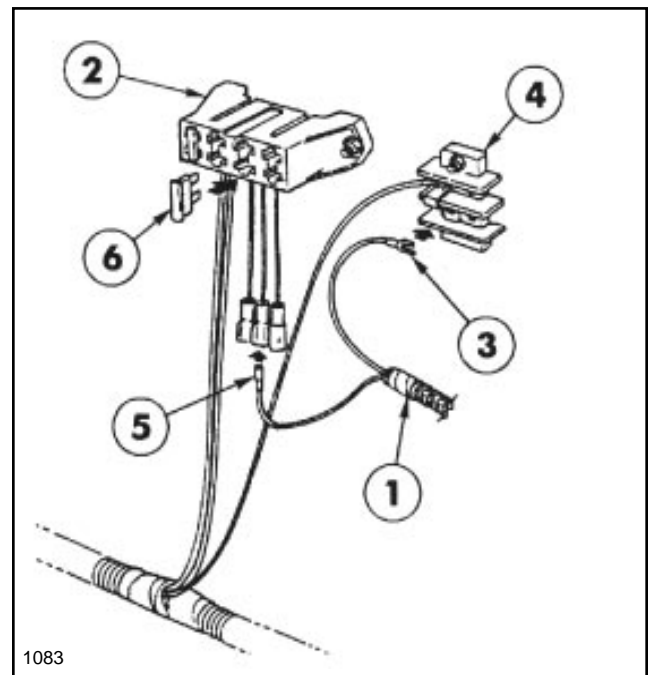

FIG. 2
9. Crimp the spade terminal to the white wire. Crimp the push-on terminal to the red wire. See FIG. 2.